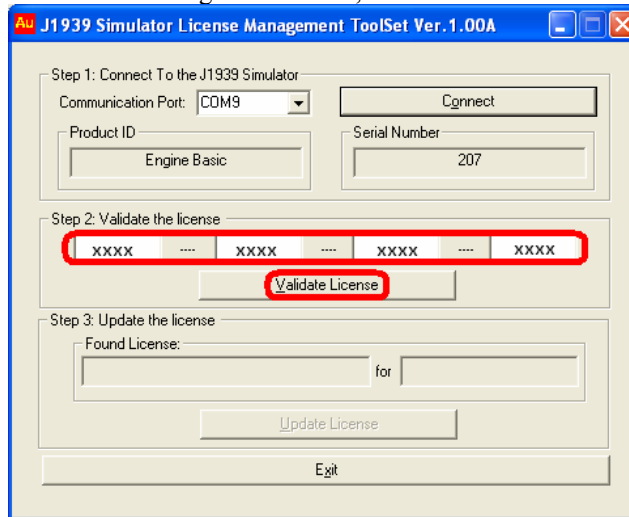

Figure B-11
2. Enter a validate license code in the license management toolset, then click “Validate license” button (Figure B-11)